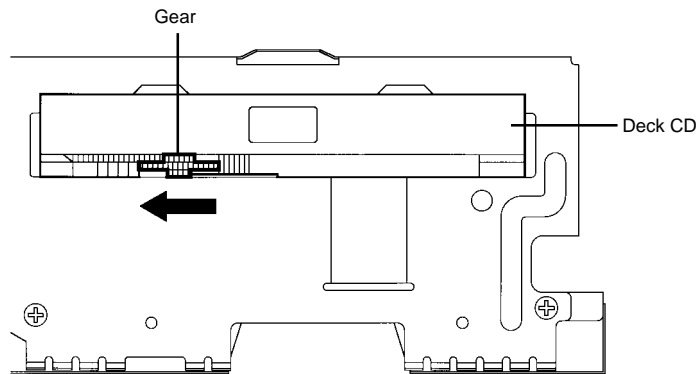

Fig. 3
1. Remove the Top Cabinet and Front Cabinet. **(Refer to item 1 of the DISASSEMBLY INSTRUCTIONS.)**
2. Rotate the gear of Deck CD section in the direction of the arrow by hand, remove the disc from Deck CD. **(Refer to Fig. 3)**